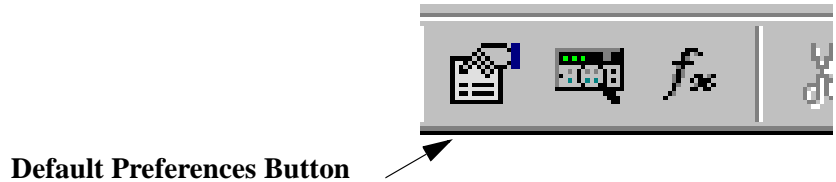

Figure 9-11. Default Preferences Button on Toolbar
1. From the main VEE menu, click **File** ⇒ **Default Preferences**, or press the **Default Preferences** button on the tool bar as shown in Figure 9-11.